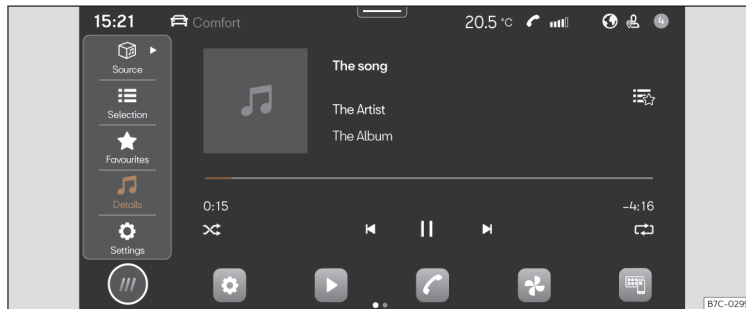

Fig. 130 Schematic representation: Multimedia view
- Press **HOME** > ►►► **Fig. 130**.